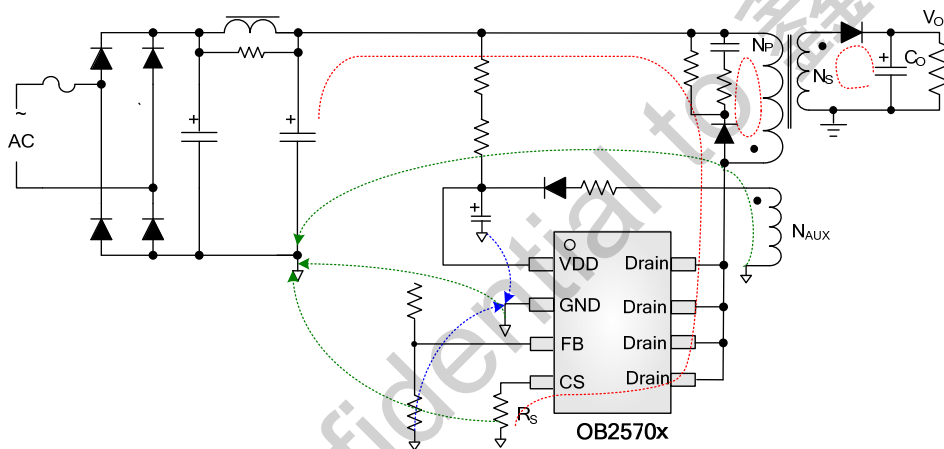

Fig.6 Flyback Schematic with OB2570x
**The Area of Power Loop:** The area of the main current loop should be as small as possible to reduce EMI radiation, such as the primary current loop, the snubber circuit and the secondary rectifying loop (Red wire as shows in Fig.6). Drain pin increases the copper area of the drain terminal for heat dissipation (Green region as shows in Fig.7). And the PCB trace must be wide and short for thermal consideration.
bypass capacitor on VDD and the FB divider resistor should be placed as close as possible to pin out. And the negative node of VDD capacitor and the FB down resistor should be connected directly to the IC GND pin before single point connected to the negative node of the output capacitor. (Blue wire as shows in Fig.6)